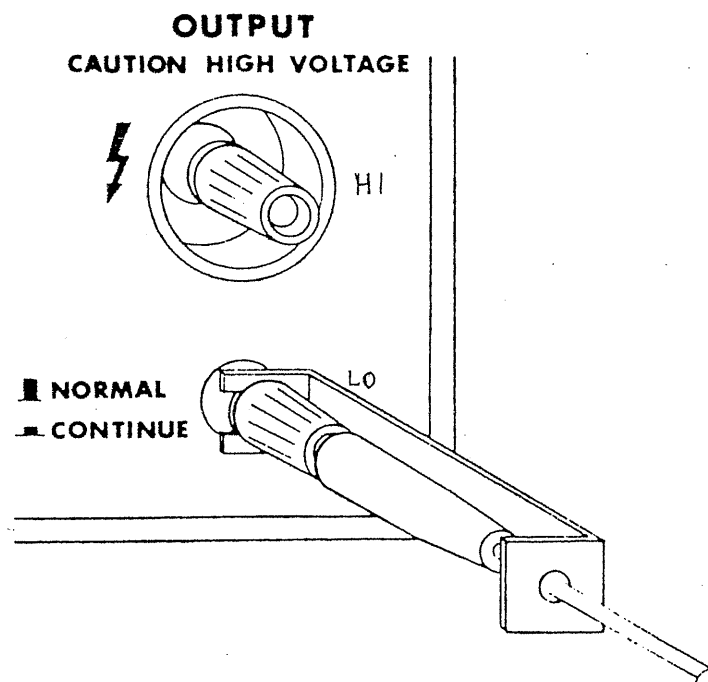

Figure 3.3
- (1) The connection method of the test cable of the 10 voltage line is shown in Figure 3.3. Be sure to check this cable against open-circuiting each time the instrument is used.
- (2) Regarding the cable connection to the measured object, securely connect the cables starting with the IO voltage cable. Note that, if the connection is incomplete, the overall measuring circuit may become a floating state and a dangerously high voltage may build up.
- (3) When operating the instrument, be sure to wear gloves in order to protect against electric shocks.